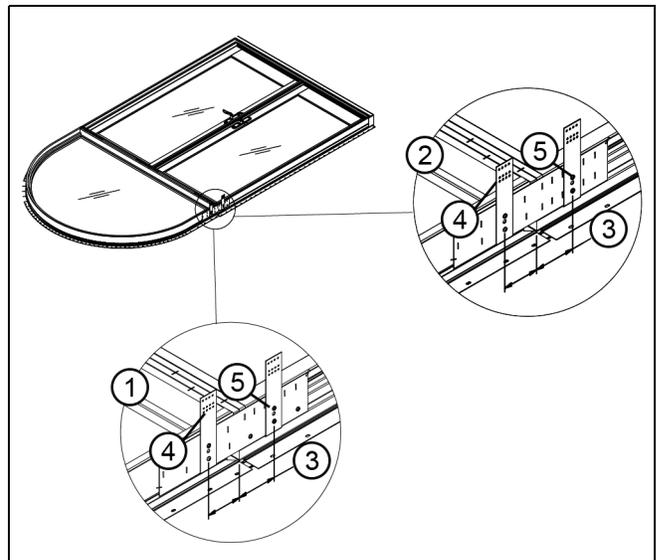

Figure 44
10. Attach two structural brackets on both sides of the unit with #7 x 5/8" flat head wood screws; one 4" (101) on each side of the mull joint. See Figure 44.